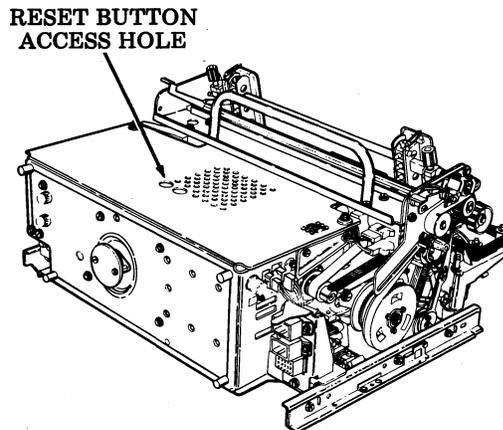

Fig. 11—Reset Button Access Hole (Tractor Feed Printer)
2.10 The thermal overload switch is provided to correct an overcurrent or a stalled condition due to excessive heating, at the motor. The switch will trip at overload causing the reset button to pop out. The manual reset button can be reached through its access hole (Fig. 11 and 12) in the cover plate (a screwdriver or other slender tool may be used to reach through this hole). The condition that caused the overload must be corrected before resetting the switch.